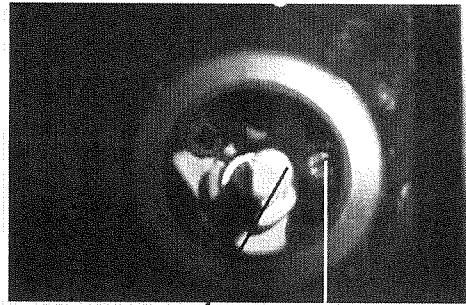

Fig. 4
- Using the small screwdriver, unscrew the brass, adjustment screw (yellow) (**Fig. 4**) , **anti-clockwise**.